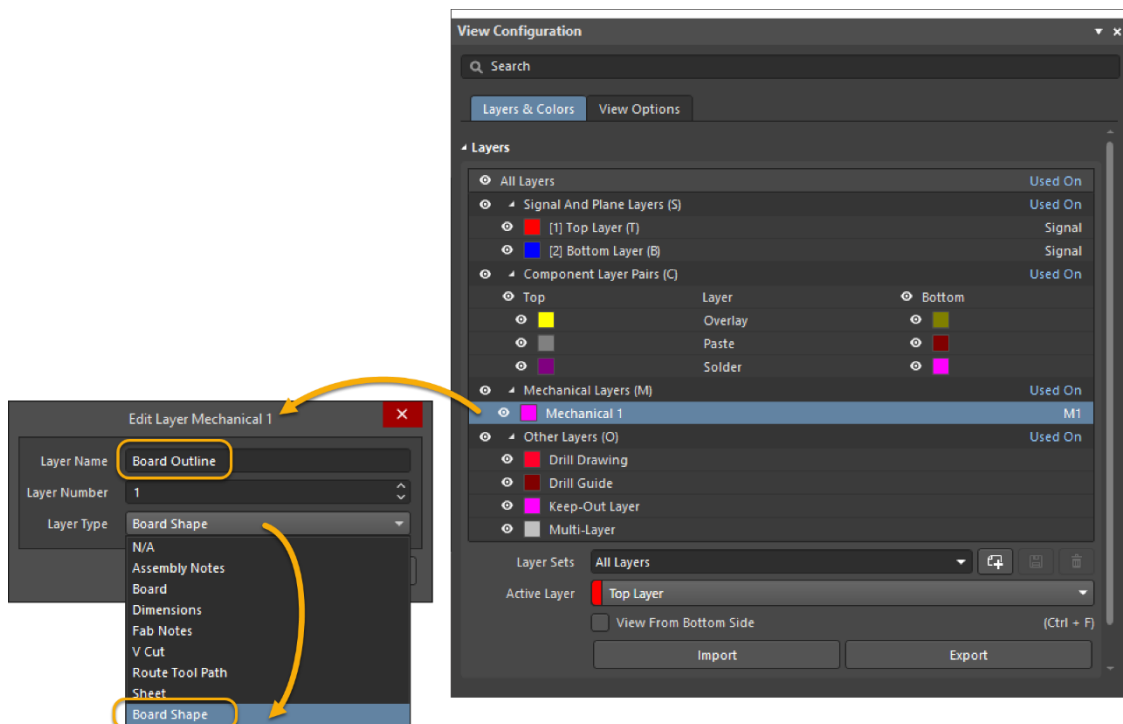

Figure 2. Renaming Mechanical Layer
14. Right-click on layer **Mechanical 1** and select **Edit Layer** as shown in Figure 2. Change the Layer Type to **Board Shape** and the Layer Name to **Board Outline**.